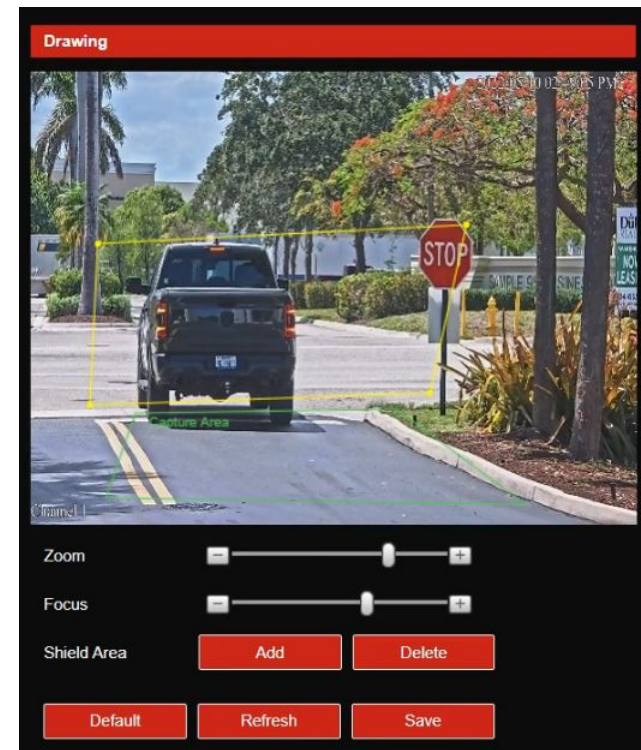

Figure 4-2
Step 4 For best results, make sure the plates to be captured are in the center of the screen. The vehicle should take up most of the FOV to acquire the highest resolution capture of the License Plate. You can use the zoom and focus controls as needed. See Figure 4-2 for reference in the following steps.